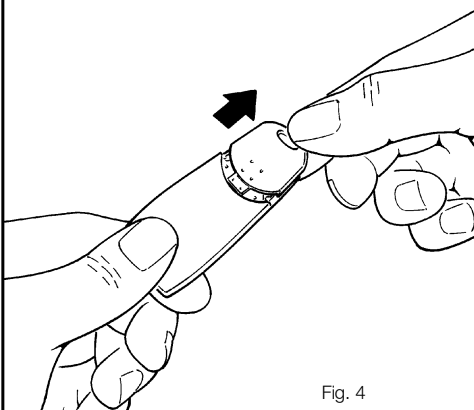

Fig. 4
1. Open the bottom by pulling it (Fig.4)